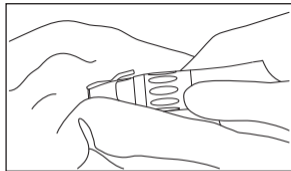

Fig. 8
3) Wipe the exterior of the handpiece clean using a cloth moistened with disinfectant or ethanol with a concentration of 60-90% (Fig. 8).